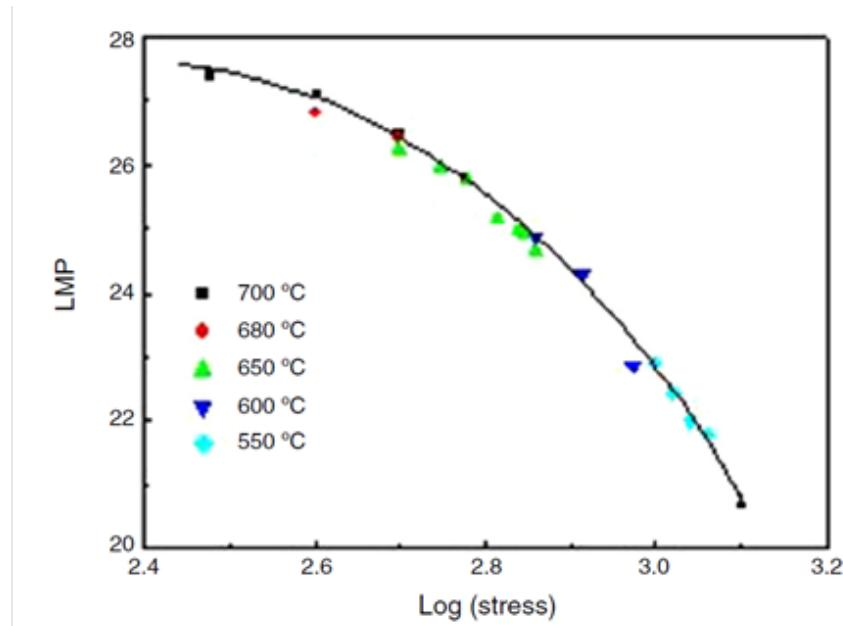

Figure 6. Larson Miller Parameter (LMP) correlation with stress obtained from stress rupture test of Ni-based super alloy.
b) Your team leader shares the results from stress rupture tests performed at different test parameters on Ni-based super alloy used for turbine blades (shown in Figure 6). Consider that $LMP = T(\ln(t) + c) \times 10^{-3}$ and that the Larson miller parameter constant c is 25.